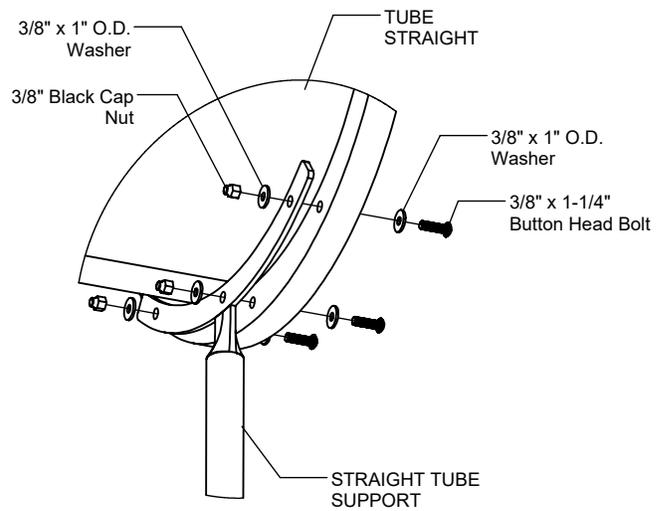

Figure 1.1
Place Straight Tube Support in footing hole. For Non-Window version, match drill (3) \varnothing 1/2" holes where Straight Tube Support will mount. Attach Straight Tube Support to Crawl Tube as shown in Figure 1.1. (See Notes A & C)